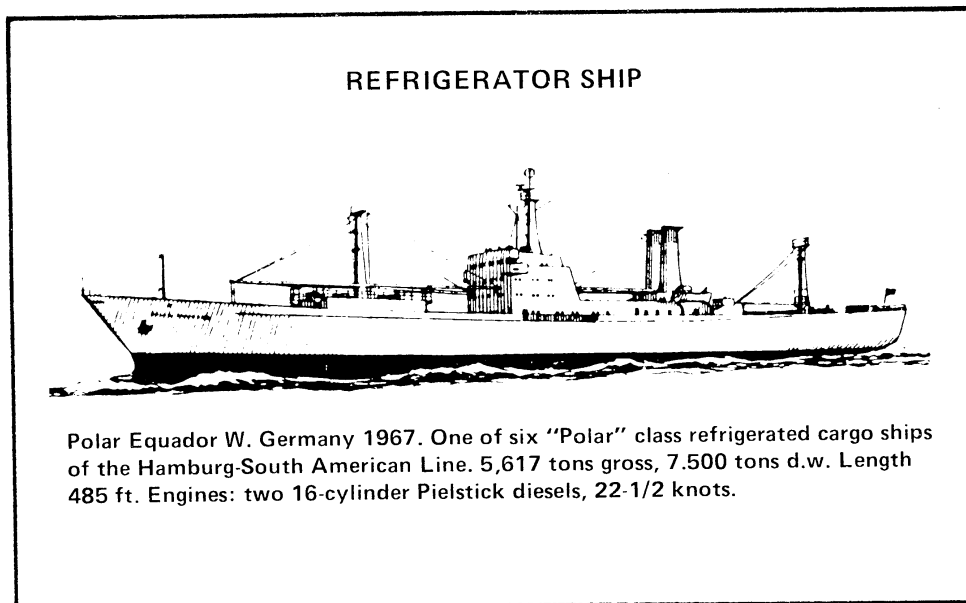

Figure 8-66 Refrigerator Ship
- c. **Refrigerator Ships** — (See Figures 8-66 and 8-67.) Refrigerator ships are specialized cargo ships designed for carrying fruit (especially bananas) and other perishable cargo such as meat. They are variable in design and difficult to identify as such, but tend to have speedy lines and often a fairly large mid-ships superstructure.